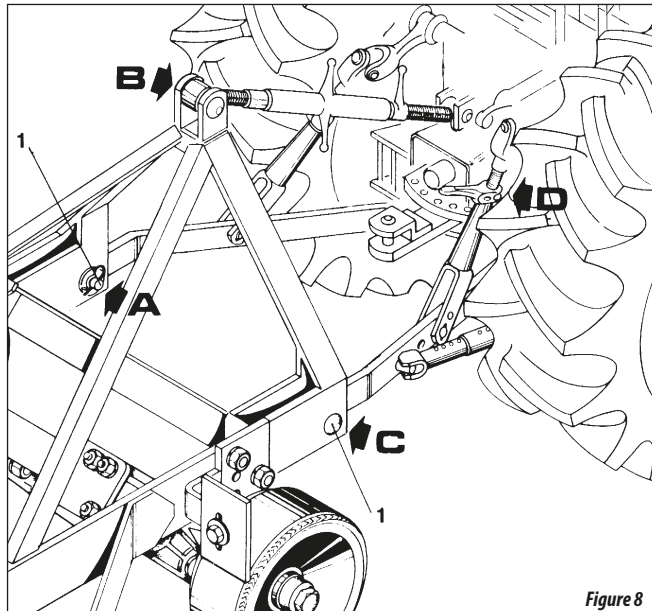

Figure 8
04 - Hitch the lower left arm of tractor with the clamp pin as item 1 figure 8, at "A" support of subsoiler.
06 - Finally with the help of regulator handle of high "D" hitch the right lower arm of tractor at the "C" support of subsoileras shown the figure 8. Turn the handle supporte and the counter pin.